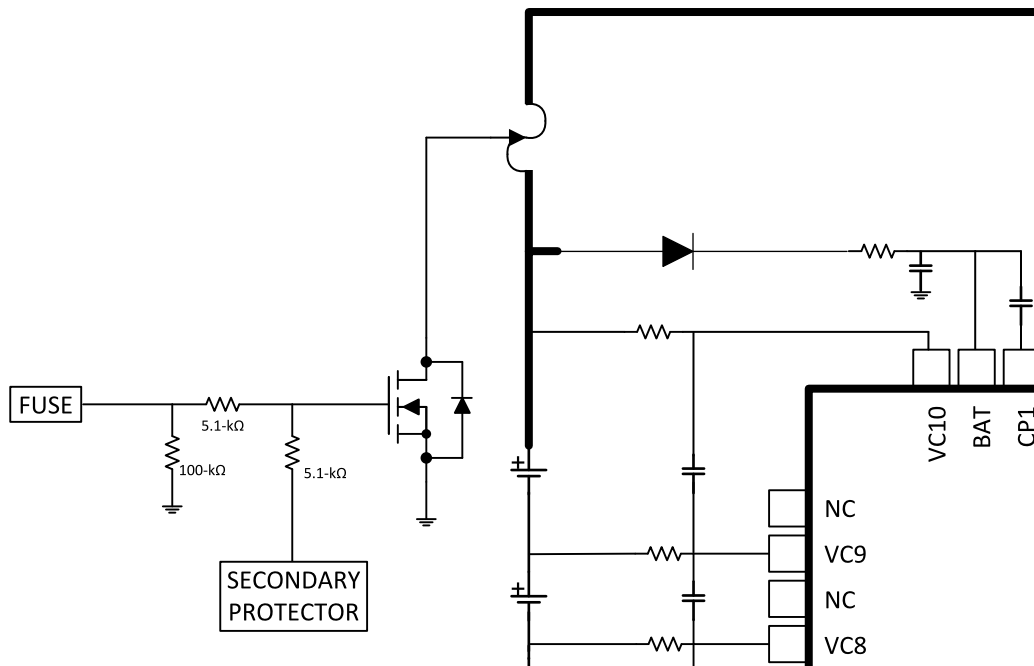

Figure 9. FUSE pin operation
The FUSE pin on the BQ76942 device can be used to blow a chemical fuse in the presence of a Permanent Fail (PF), as well as to detect if an external secondary protector in the system has detected a fault and is attempting to blow the fuse itself. The pin is intended to drive the gate of an NFET, which can be combined with the drive from an external secondary protector, as shown in Figure 9. When the FUSE pin is not being asserted by the BQ76942 device, it remains in a high-impedance state and will detect a voltage applied at the pin by a secondary protector. If the Second Level Protector PF is enabled (using the **Settings:Permanent Failure:Enabled PF B[2LVL]** and **Settings:Manufacturing:Mfg Status Init[PF_EN]** configuration bits), a PF will be generated if the device detects a high signal at the FUSE pin.